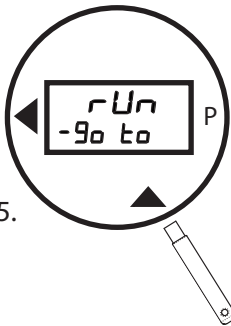

Figure 25.
- b. Pass the wand over ▲ to increment to the **rUn - Go** selection (Figure 25).